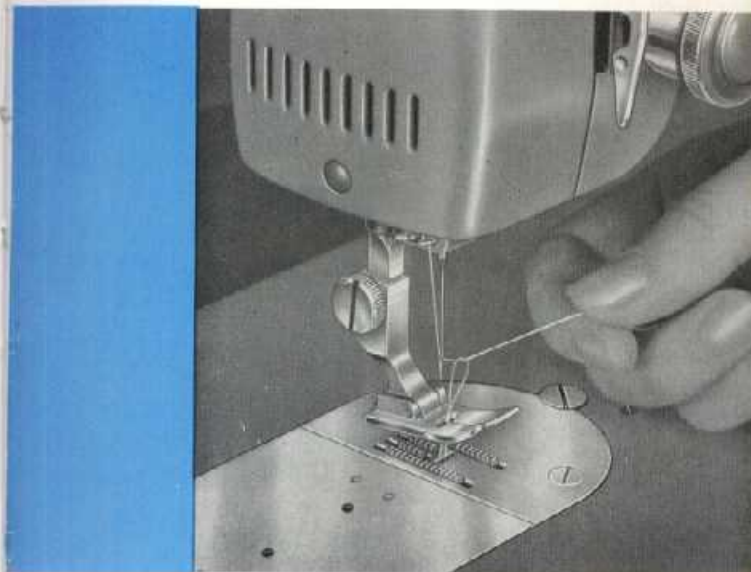

Fig. 11
- c) Now, by drawing the upper thread by hand, the lower thread will be pulled up through the stitch hole of the needle plate, as shown in Fig. 11.